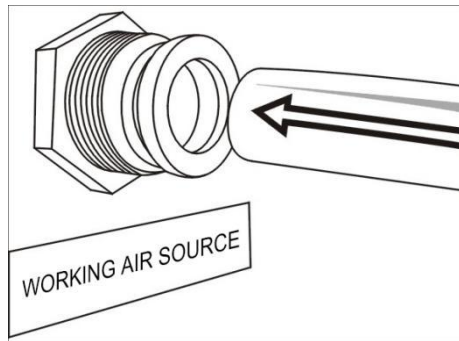

Figure 4 Pipeline Connection
- ① Start switch with indicator light ② Touch screen ③ Emergency stop switch
6.2 Connect the working air source pipe. The air source connections of the equipment are located at the rear side of the equipment (see Figure 4).